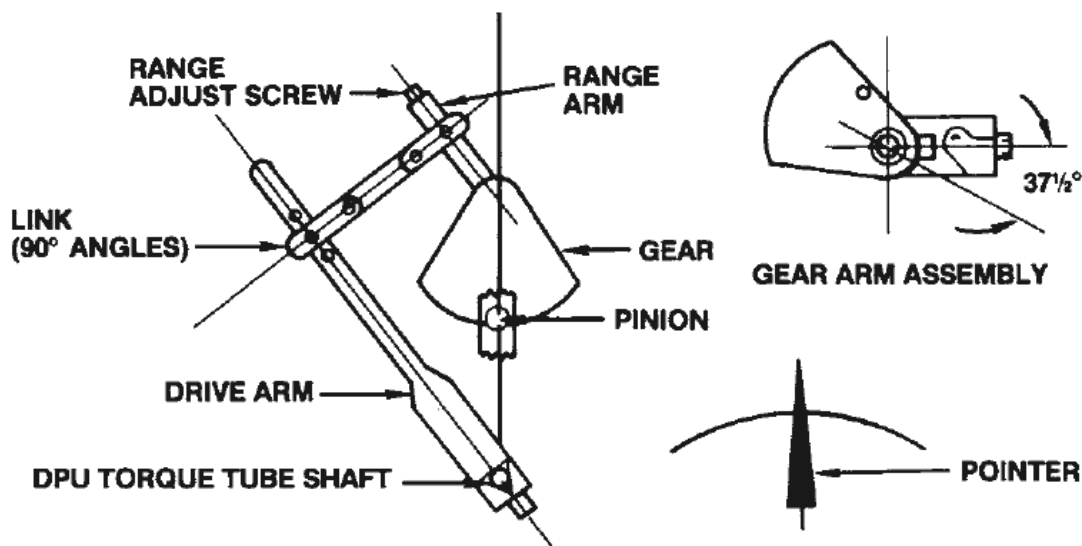

Figure 3.3—Universal range/linearity adjustment (50% DP)
6. Ensure linkage between drive arm and movement are attached. See Figure 3.3 below for linkage alignment at 50% DP applied. Inspect parts for straightness and pivot-fit without binding.
12. Release pressure and reset pointer at zero. Check the span. If gear in movement reaches limit of travel as a result of linearity adjustment (step 9), slip range arm along gear approximately 5 degrees from normal 37.5 degree angle to approximately 43 degrees. (Figure 3.3) The range arm is slipped by applying pressure to range arm with thumb, while holding gear firmly in place. Retest pointer response at 50%, 0%, and 100% of full-scale differential pressure, and adjust linkage until readings are acceptable.